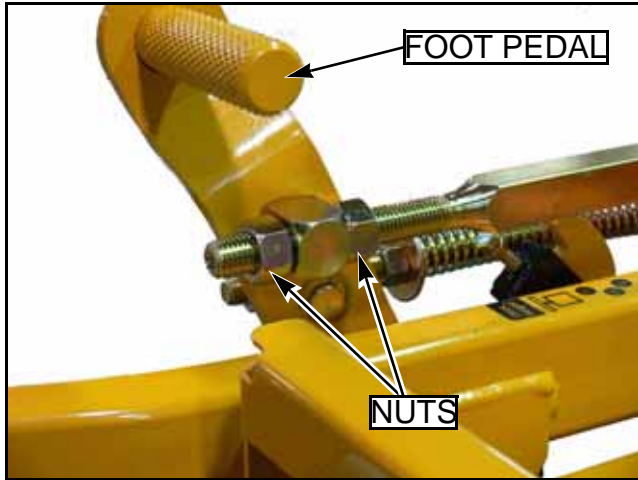

FIG. 38
7. Loosen the two nuts on the front of height indicator so that the foot pedal is free "FIG. 38".
12. While keeping the chain tight, tighten the nuts against the deck lift block on the height indicator rod, just enough to carry most of the deck weight on that side—the 4" block should be able to move with only a slight drag "FIG. 38".